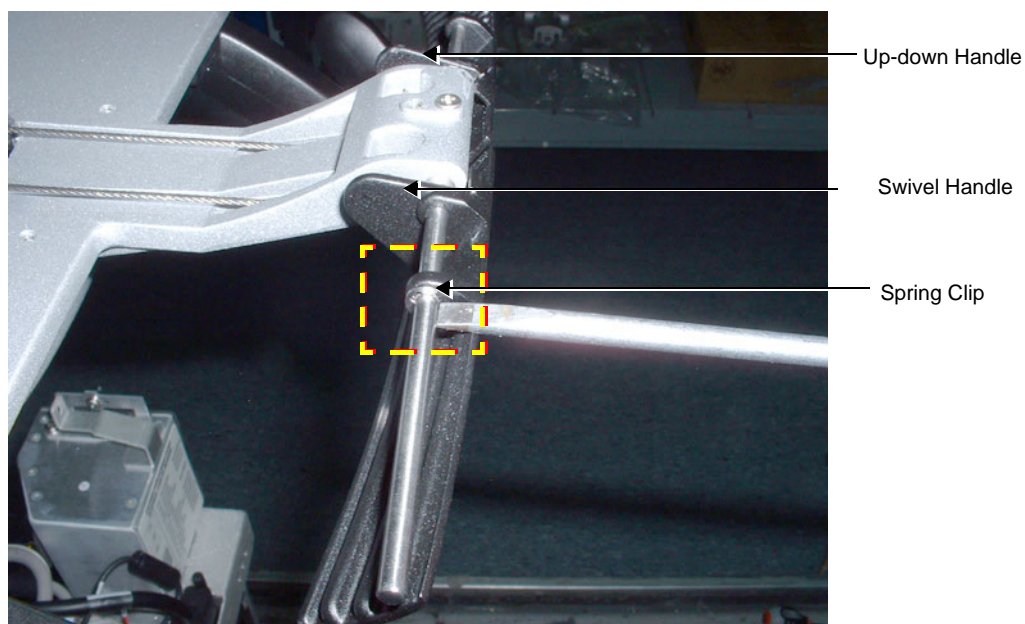

Figure 8-190 Removing Spring Clip that Secures the Swivel Handle
- 4.) Remove the spring clips securing the particular handle to be removed - Figure 8-190.